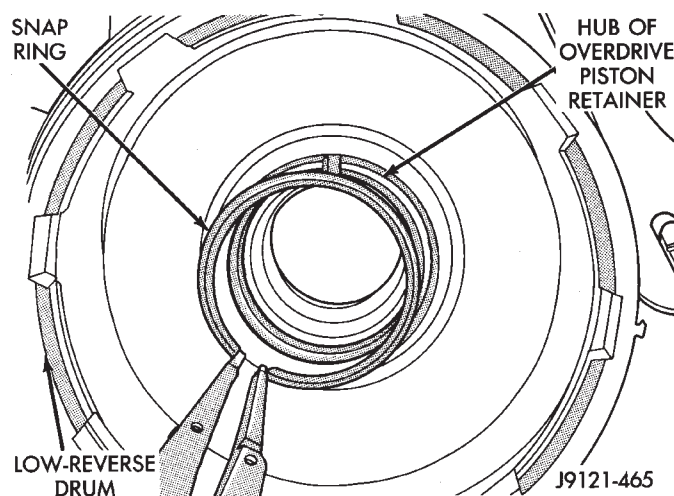

Fig. 136 Installing Low-Reverse Drum Snap Ring—46RH
(10) Install snap ring that secures low-reverse drum to rear support hub (Fig. 136).